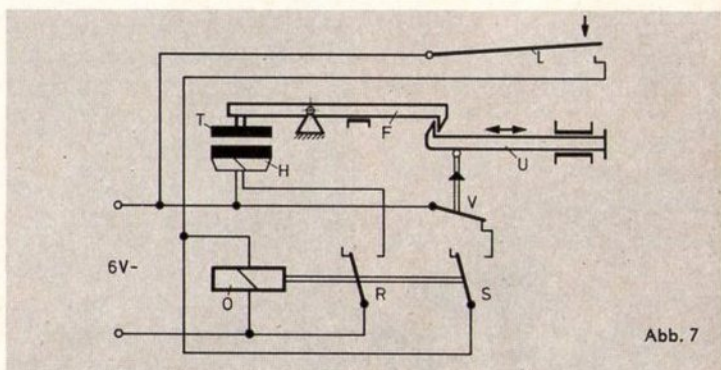

Abb. 7
5. The electrical circuit (Fig. 7).